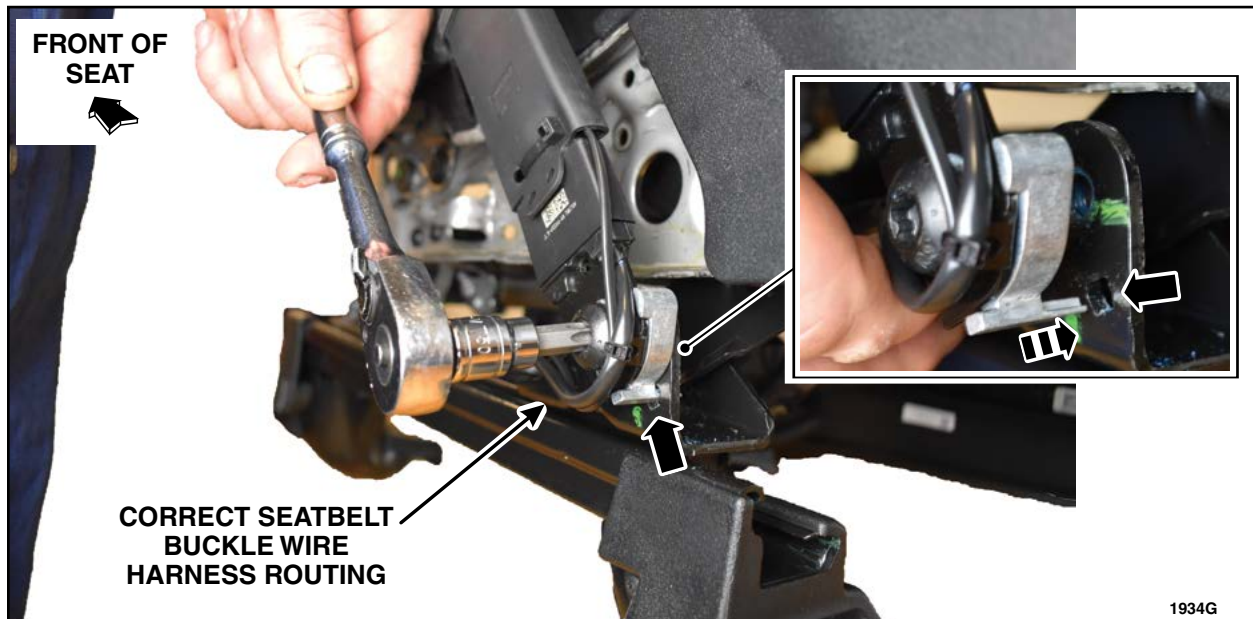

FIGURE 6
9. Align the seatbelt buckle alignment pin into the seat track alignment slot. See Figure 6.
NOTE: When tightening the seatbelt buckle bolt ensure that the seatbelt buckle wiring harness does not get trapped behind the buckle. See Figure 6.